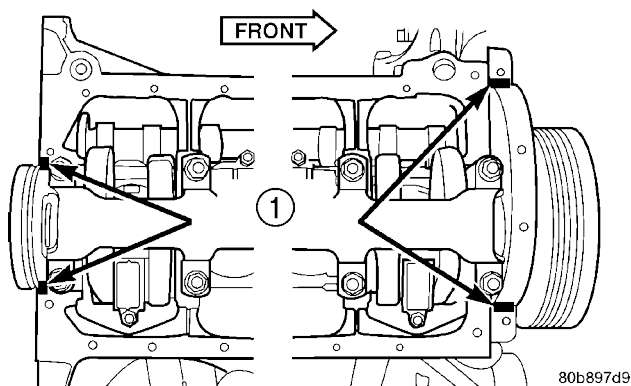

Fig. 55 Oil Pan
(9) Install the rear main bearing cap. DO NOT strike the cap more than twice for proper engagement.
(10) Tighten all main bearing bolts to 108 N·m (80 ft. lbs.) torque.
(11) Install the main bearing cap brace. Tighten nuts to 47 N·m (35 ft. lbs.).
(12) Install the oil pan gasket and oil pan (Refer to 9 - ENGINE/LUBRICATION/OIL PAN - INSTALLATION).
(13) Apply Mopar® Silicone Rubber Adhesive Sealant on cylinder block to rear main bearing cap corners and cylinder block to front cover joints (four places) (Fig. 55)